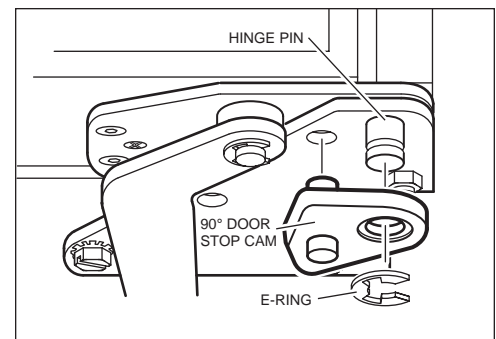

Figure 2-14. 90° Stop Cam
- a With door closed, place door stop cam up over hinge pin, making sure stub on cam fits into hole in lower cabinet hinge (See Figure 2-14).
- b. Secure door stop cam by pushing E-ring into groove at end of hinge pin (See Figure 2-14).